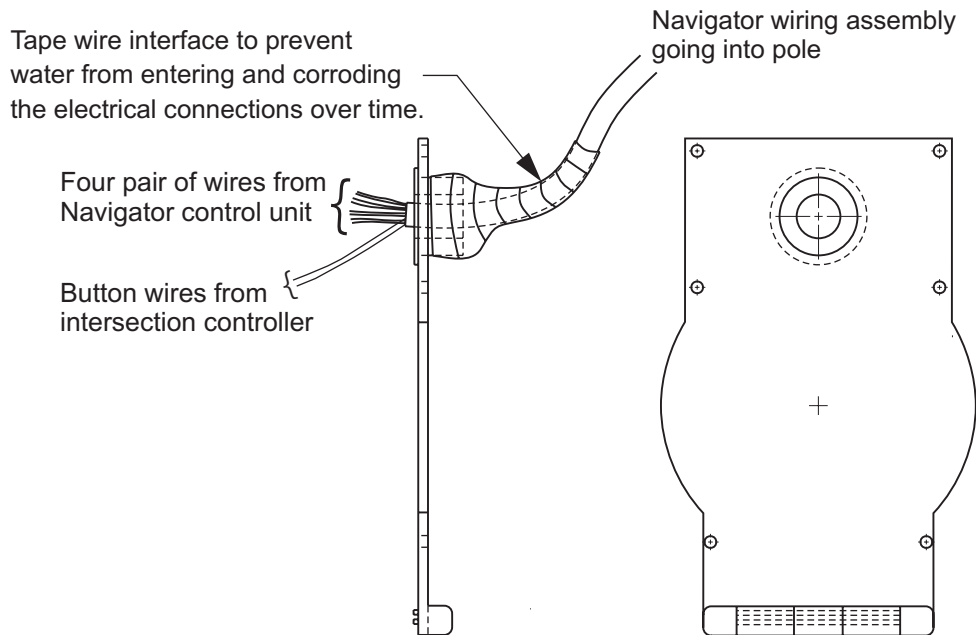

Figure 2
- Using electrical tape, tape from the wire guide to the wires to create a moisture tight seal. Apply a liberal amount of silicone over tape and around wires so water cannot flow down wires and into terminal block cavity. (see Fig. 2)